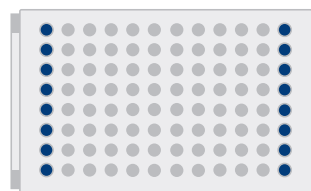

Figure 36. Load the wells/columns symmetrically from the outside in and use all positions in a plate/rack column.
- » Load the wells or columns symmetrically from the outside in so that the pressure head can be positioned horizontally over the plate/rack; see Figure 36.